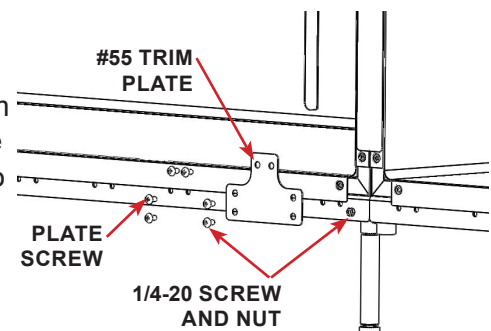

FIGURE 2.26 - Trim Plate #55
**STEP 17:** Install, but do NOT fully tighten screws, trim plate (#55) using the screws removed in the previous step. The bottom holes require two 1/4-20 screws and nuts to secure the cage to the platform frame. See FIGURE 2.26